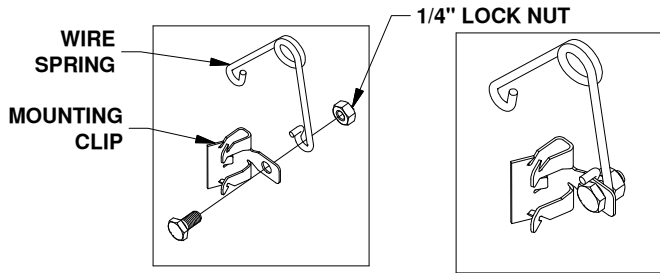
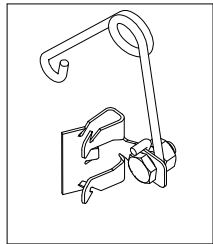

FIGURE B1:
FIGURE B2:
1. Locate the 1/4" cap screw and nut, along with the wire tension spring and mounting clip. Pass the 1/4" cap screw through the mounting clip and the wire spring as shown in Figure B1. Thread the 1/4" lock nut onto the 1/4" cap screw. Tighten the lock nut just enough that the spring will stay in place but will still be able to rotate around the bolt if needed, see Figure B2.